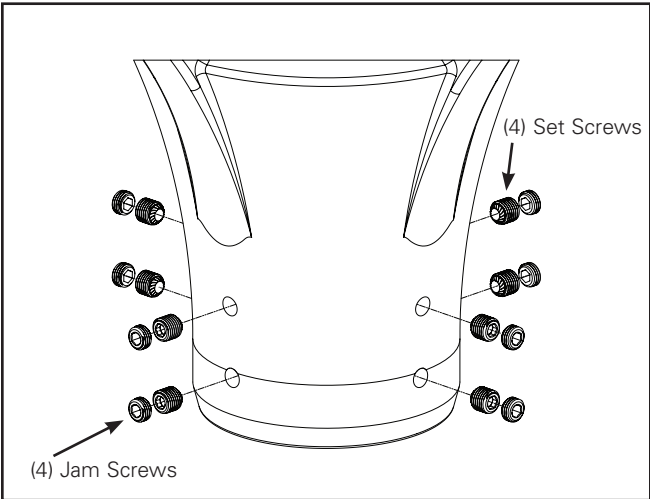

Figure 5.
- 6b. Install eight 3/8 - 24 x .375" set screws and tighten to 160 in-lbs. (Figure 5)
- 7b. Install eight 3/8 - 24 x .3185" jam set screws and tighten to 100 in-lbs. (Figure 5)